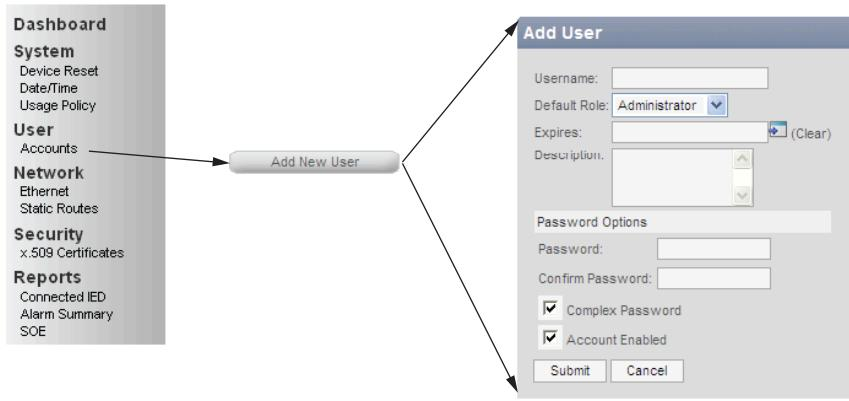

Figure 7.12 RTAC Web Access User Accounts
- Step 3. Click **Add New User**, as shown in *Figure 7.12*.